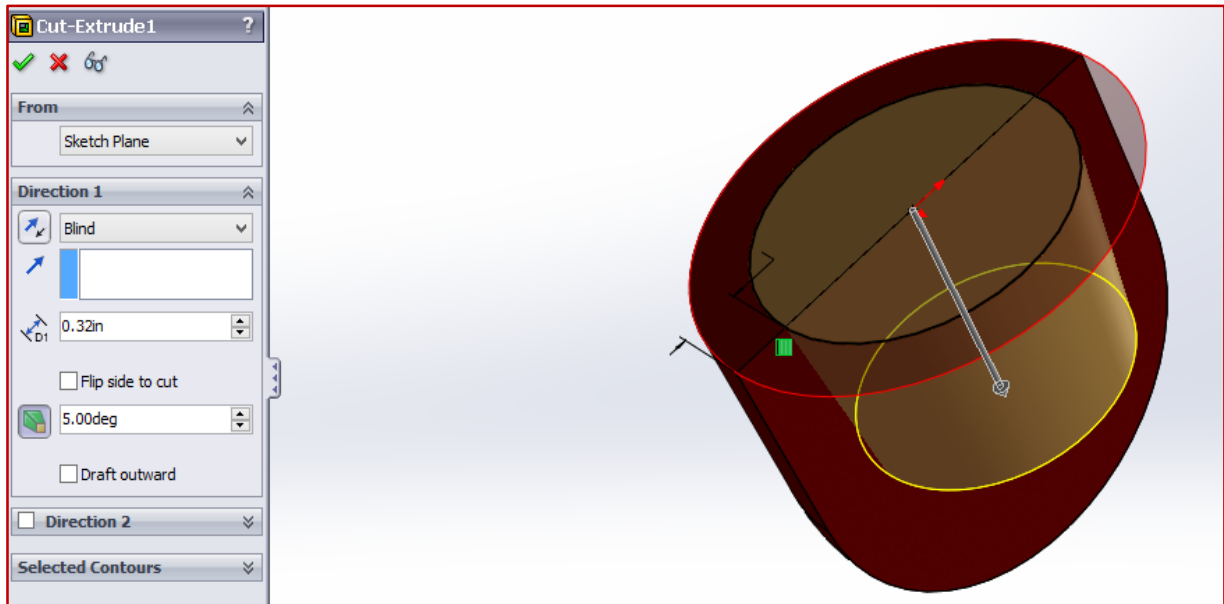

Figure 5.5 – Insert→Cut-Extrude
- ✓ Click the **Reverse Direction** arrows to create a cavity. See Figure 5.5.